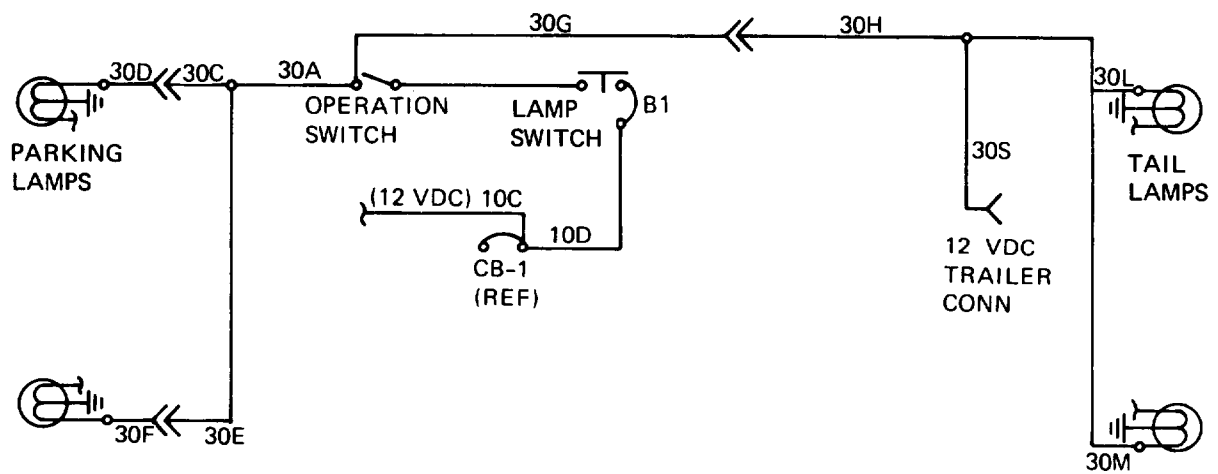

Figure 5-34. Parking and Tail Lamp Circuit
a. *Description.* The (front) parking and (rear) tail lamps are combination lamps which also provide stop and turn functions. The parking and tail lamp functions are actuated by the headlamp switch when it is pulled either halfway or all the way out (fig. 5-34).